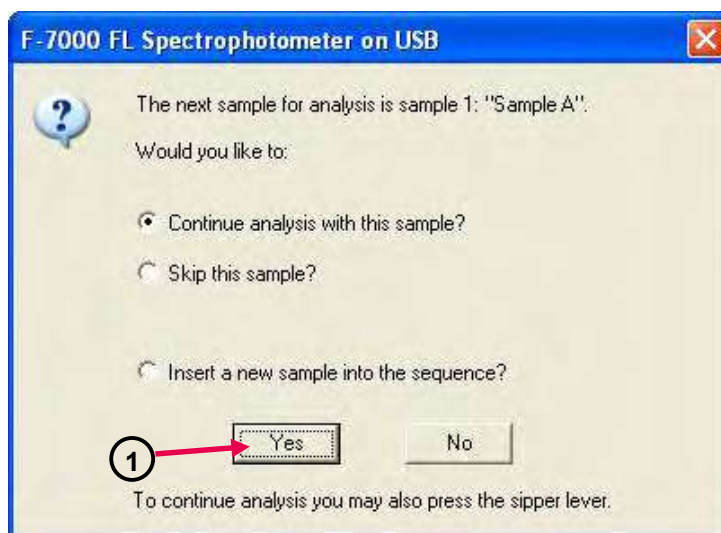

Fig. 4-37
- ① The message box shown in Fig. 4-37 appears. Carry out operation according to the messages. Measurement can be continued by clicking **Yes** and **OK** alternately.